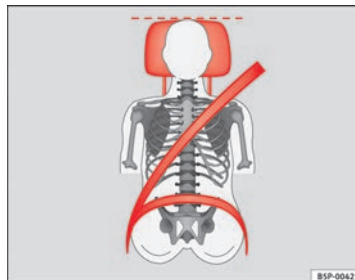
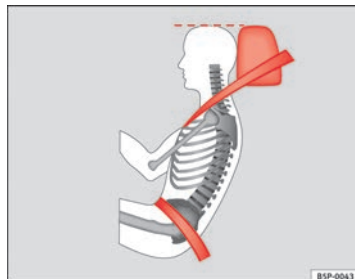

Fig. 3 Properly adjusted head restraint viewed from the front
Fig. 4 Properly adjusted head restraint viewed from the side
- Adjust the head restraint so that its upper edge is at the same level as the top of your head, or as close as possible to the same level as the top of your head and, at the very least, at eye level. ⇒ fig. 3 and ⇒ fig. 4.